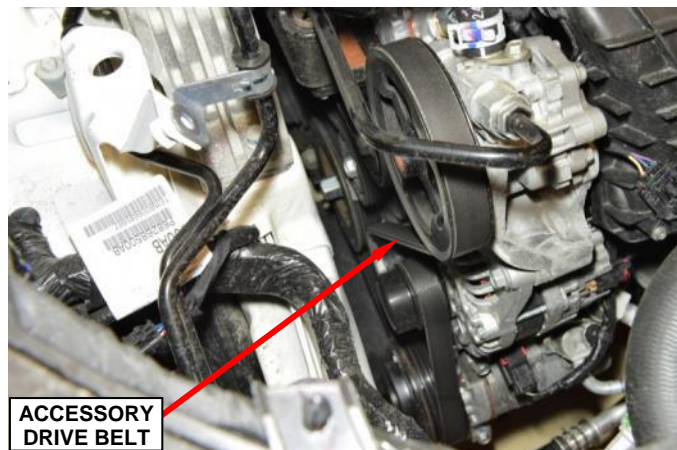

Figure 75 – Accessory Drive Belt
32. Remove the accessory drive belt (Figure 75).